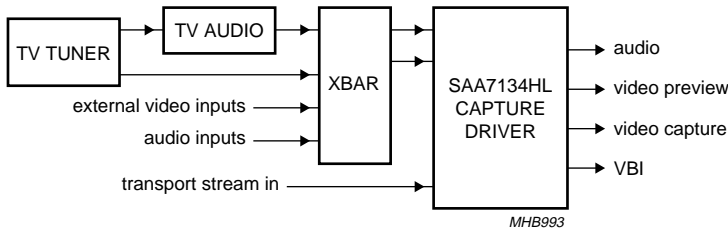

Fig.7 WDM capture driver filters.
The WDM driver for Windows 98 and Windows 2000 (see Fig.7) is a kernel-mode driver that implements a Kernel Streaming (KS) filter with output pins for audio, video preview, video capture and VBI, together with a crossbar